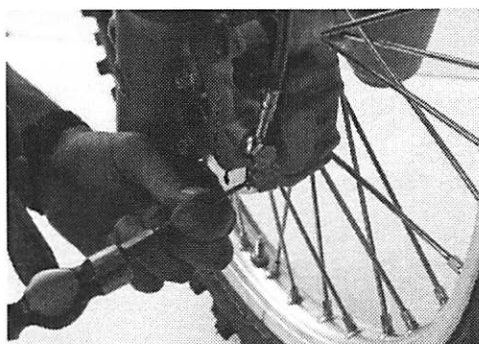

Figure 6.3
3. Push the brake pad pin toward the wheel using a drift punch and small hammer. Pull the pin from the caliper. (Figure 6.3)